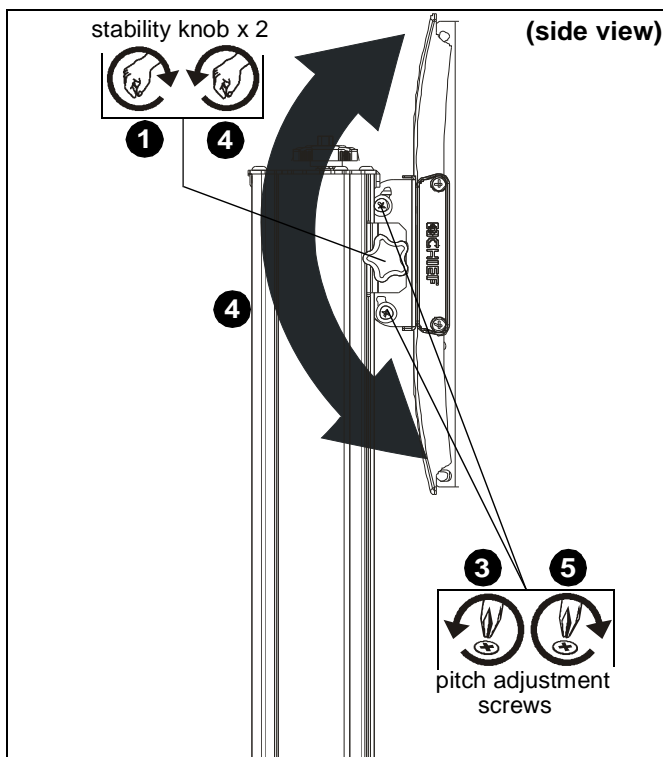

Figure 23
5. Loosen two stability knobs on either side of head assembly. (See Figure 23)
6. Loosen pitch adjustment screws to allow pitch to be adjusted. (See Figure 23)
7. Adjust pitch as desired. (See Figure 23)
8. Tighten pitch adjustment screws to lock pitch position. (See Figure 23)
9. Tighten two stability knobs on either side of head assembly. (See Figure 23)